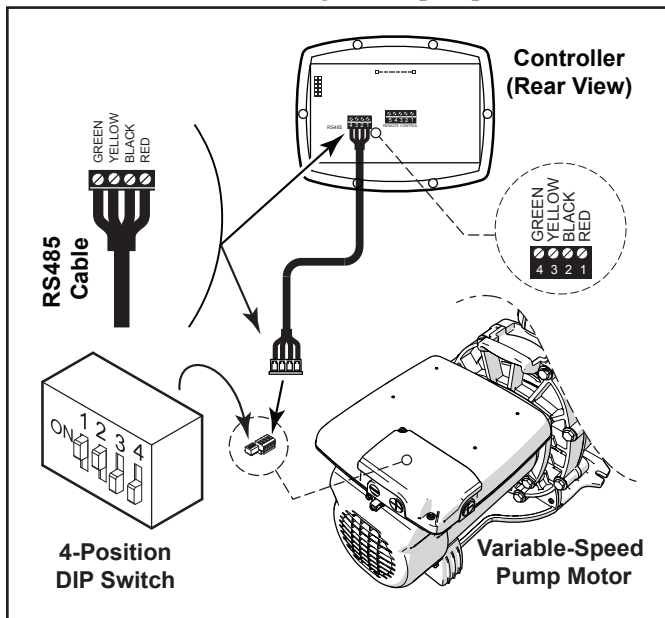

Figure 4. Wiring the Controller to the Variable Speed Pump
6. Attach the four (4) wires in the RS-485 cable to the RS-485 connector. Make sure the colors match the positions on the connector. See "Figure 4. Wiring the Controller to the Variable Speed Pump"
8. Set the DIP switch settings for the pump controller with the 1 and 2 in the ON position and 3 and 4 in the OFF position. See "Figure 4. Wiring the Controller to the Variable Speed Pump".
For the ePump™, the VS-FHP2.0 pump and the VSPHP27, the 4-position or 5-position dip switch is located at the rear of the pump, as shown in "Figure 4. Wiring the Controller to the Variable Speed Pump"